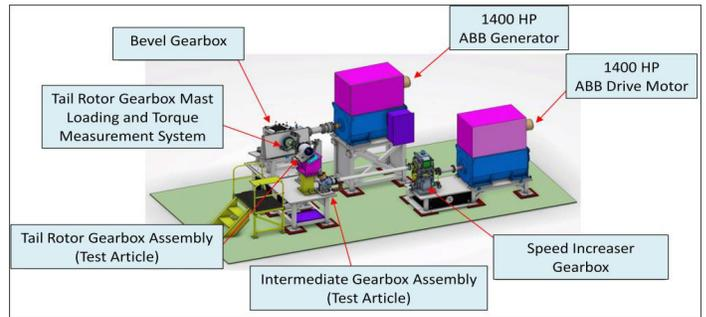

Figure 3: Tail Rotor and Intermediate Gearbox Test Cell Diagram
The tail rotor test cell is similar in design but uses only one (1) 1,400 horsepower ABB drive motor and a 1,400 HP ABB generator to re-capture the electrical energy. The test cell for the tail rotor transmission and intermediate gearbox assembly is shown in Figure 3.